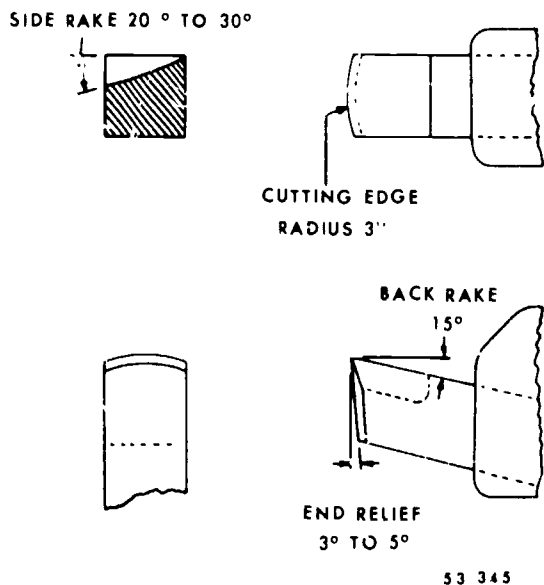

Figure 2-3 Shear tool for steel
**Steel shear.** Steel can be more highly finished with a shear tool than with any other shaper tool. For the best results, use the steel shear tool, shown in figure 2-3, with a depth of cut of less than 0.005 inch and the finest possible feed.